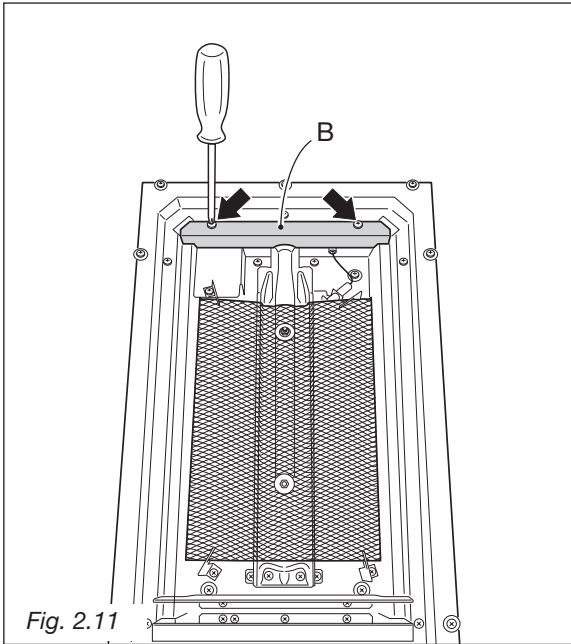

Fig. 2.11
- Unscrew the no. 2 (two) screws and remove the plate "B" (fig. 2.11).